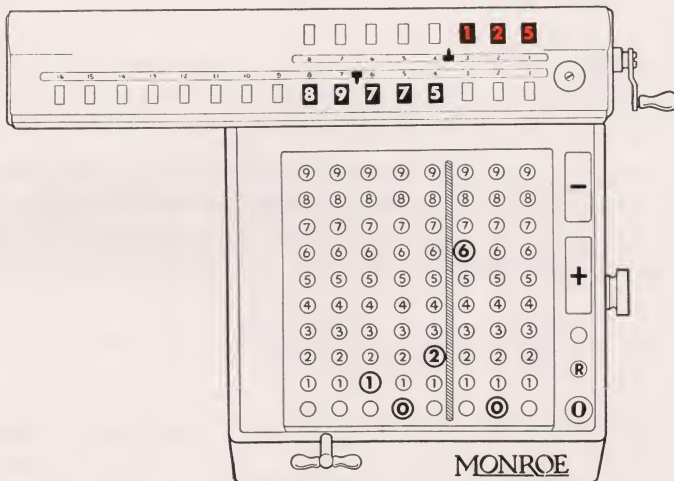

Figure 15
Step 4—Upper dials show in red .125, rate of discount, lower dials show 89.775000 or \$89.78, net of invoice, and keyboard shows 102.60, gross of invoice. See Figure 15.